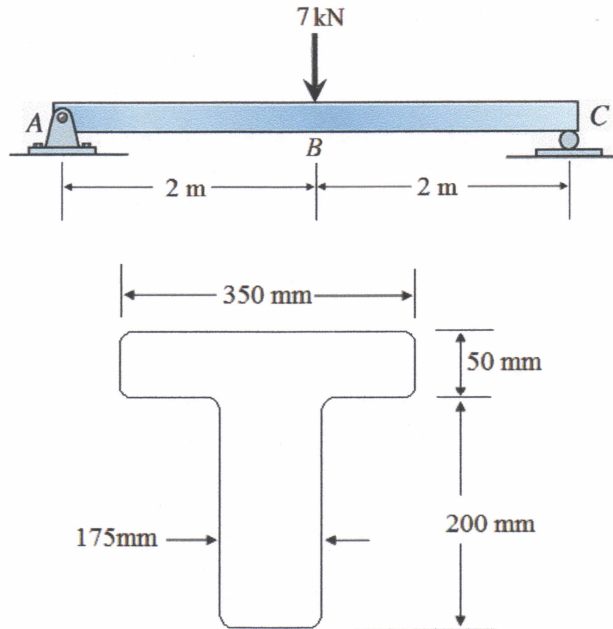

Figure Q3 (b)
- (b) **Figure Q3 (b)** shows the T shape of a brass beam with 4 m length is subjected to a concentrated load 7 kN on the middle beam at point B. By neglecting the fillets effect,